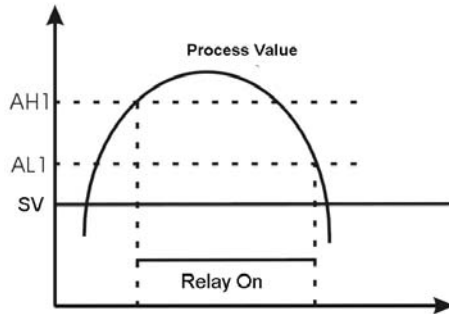

Figure 4
- ① When $AH1=AL1$, relay is disabled,
- ② $AH1 > AL1$ is for absolute high alarm. See fig. 4.